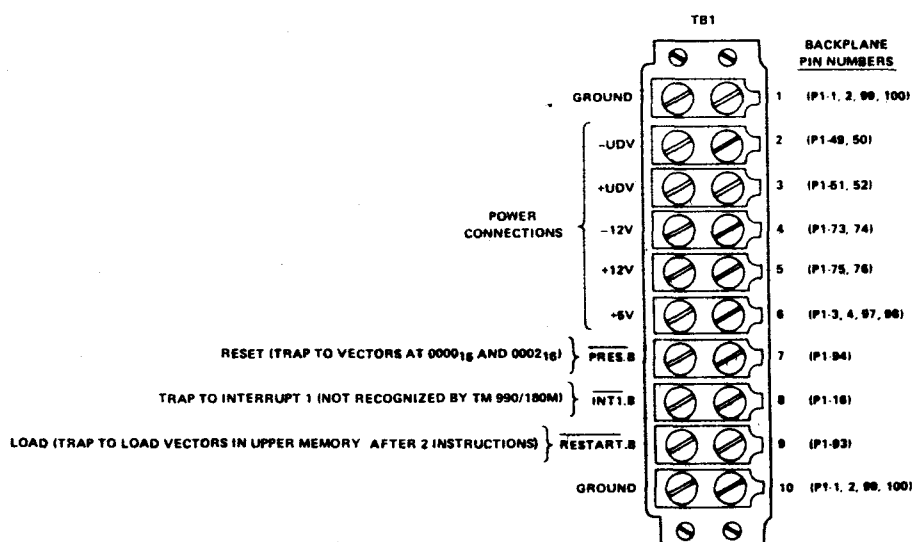

FIGURE 2-1. TERMINAL STRIP ON CARD CAGE BACKPLANE
- 4) Connect the voltages to the connector terminal at the back of the chassis as shown in Figure 2-1. Check to see that +12 V and -12 V are not reversed.
- 4) Run one wire around to the back of the chassis and pull it across the 'GND' screws in the #1 position (top) of the terminal strip. Refer to Figure 2-1 in section 2. Attach it to the 'GND' terminal with the screw provided.
- 5) Run the remaining wire around to the back of the chassis and pull it across the 'PRES.B' bar screws in the #7 position of the terminal strip. Refer to Figure 2-1 in section 2. Attach it to the 'PRES.B' terminal with the screw provided.